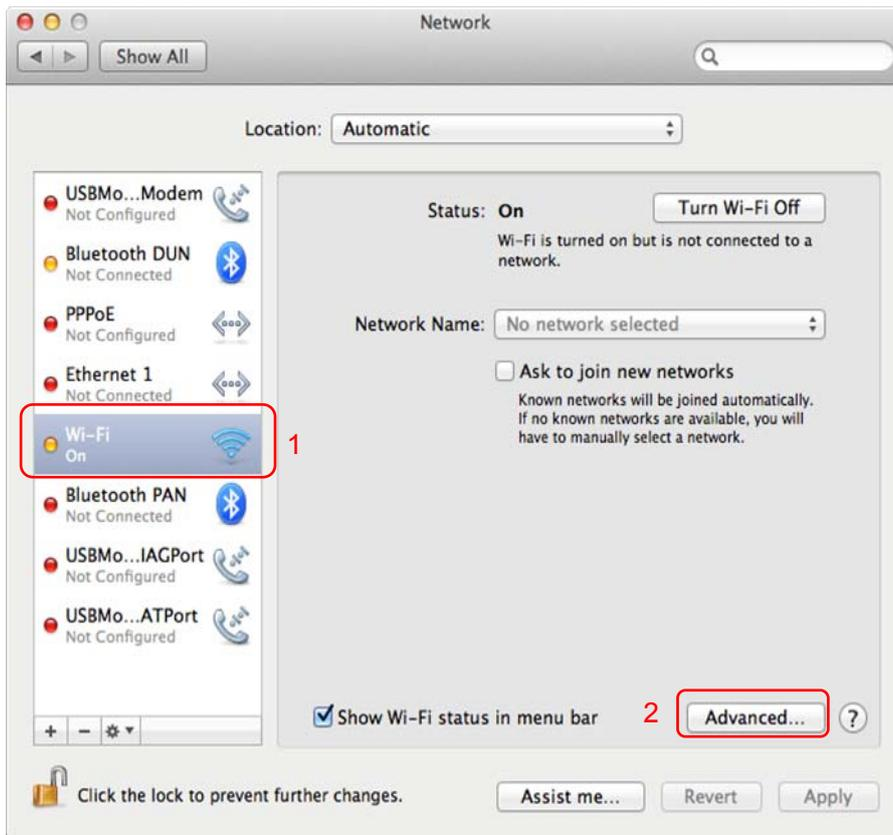
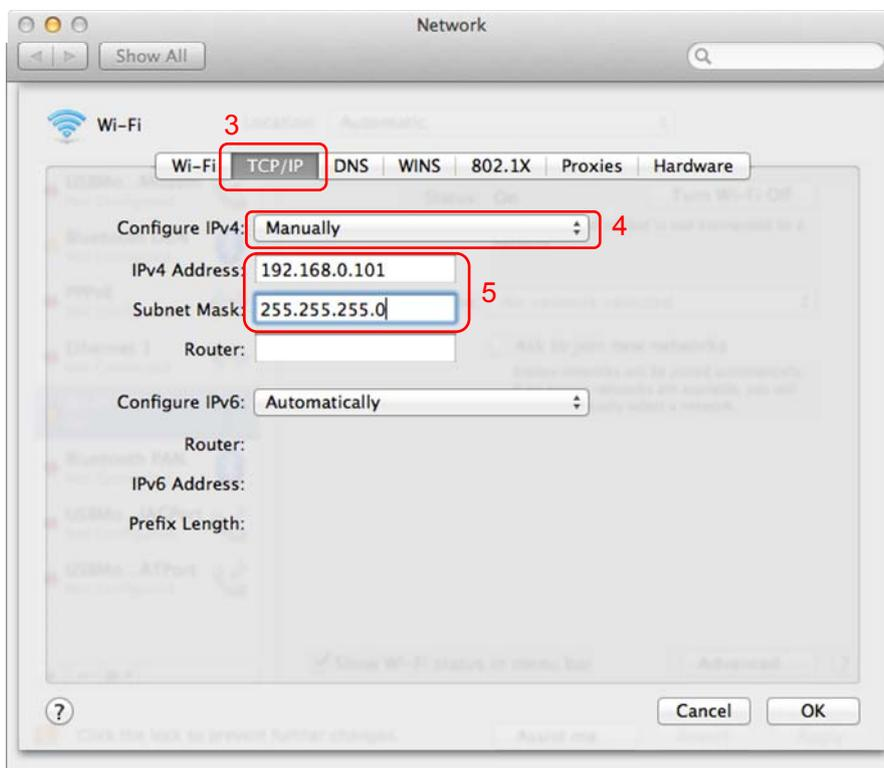

Figure 3-38
Figure 3-39
3. Follow the steps as shown in Figure 3-38 and Figure 3-39 to set the IP address.